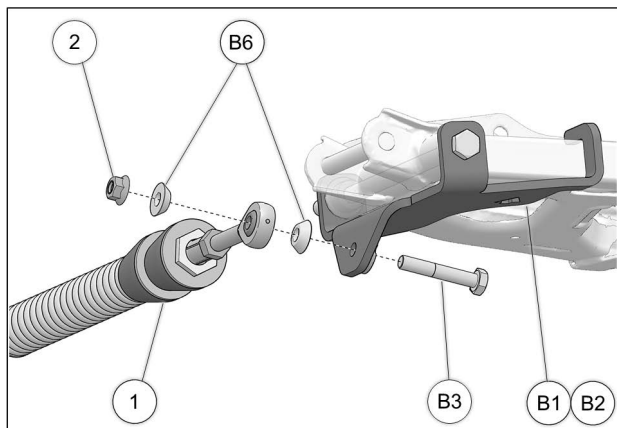

Fig. 9
9. Attach stabilizing rod (1) to anchor bracket (B1-B2), using M10x60mm bolt (B3), conical spacer bushings (B6), and nut (2). Torque to 70 Nm [52 lb•ft]. See Fig. 9